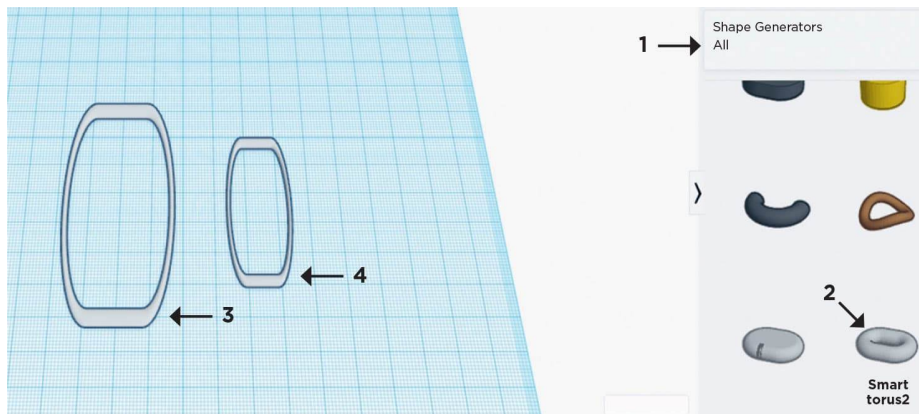

FIG. 1: Model the paperclip using two torus shapes.
1. In **Shape Generator—All** (arrow 1), use the **Smart Torus 2** (arrow 2) to create two tori, one smaller than the other and both of thickness 2 mm. The larger torus (arrow 3) should be roughly 75 mm by 35 mm, while the smaller (arrow 4) should fit inside it, roughly 50 mm by 20 mm (fig. 1).